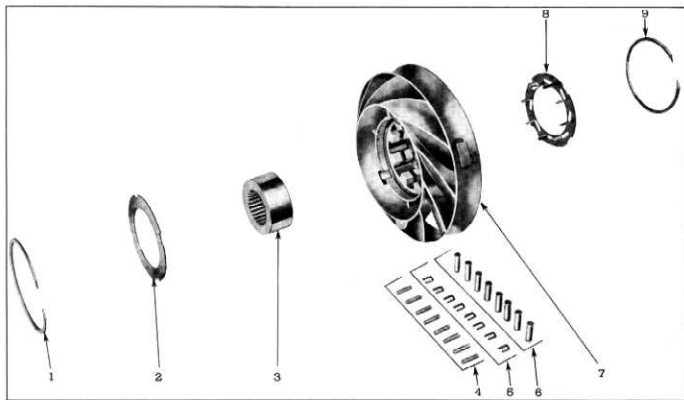

Fig. 175—Layout of Stator Parts
10. Figure 175 shows layout of stator parts.